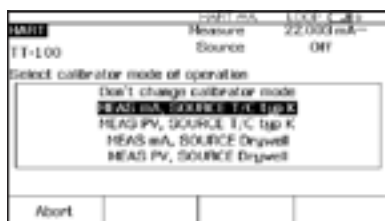

Figure 12.
2. Press the  key again and you are prompted to select the 754 configuration (Figure 12). Selecting **MEAS mA, SOURCE T/C typ K** configures the calibrator to measure the analog mA output of the transmitter and source the correct temperature stimulus at the 3144 input. (Selecting **MEAS PV, SOURCE T/C typ K** will configure the 754 to evaluate the digital PV output from the transmitter.) Press  to select.